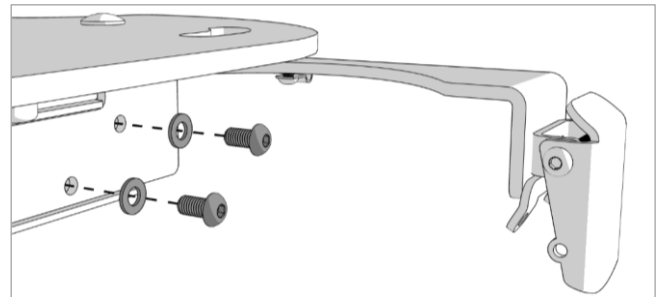

Figure 8.6
7. Secure each CPR Lever Bracket with two M8x16mm Long Button Head screws and two M8 Washers ensuring they are tightened with the 6mm Allen Key as shown in Figure 8.6.